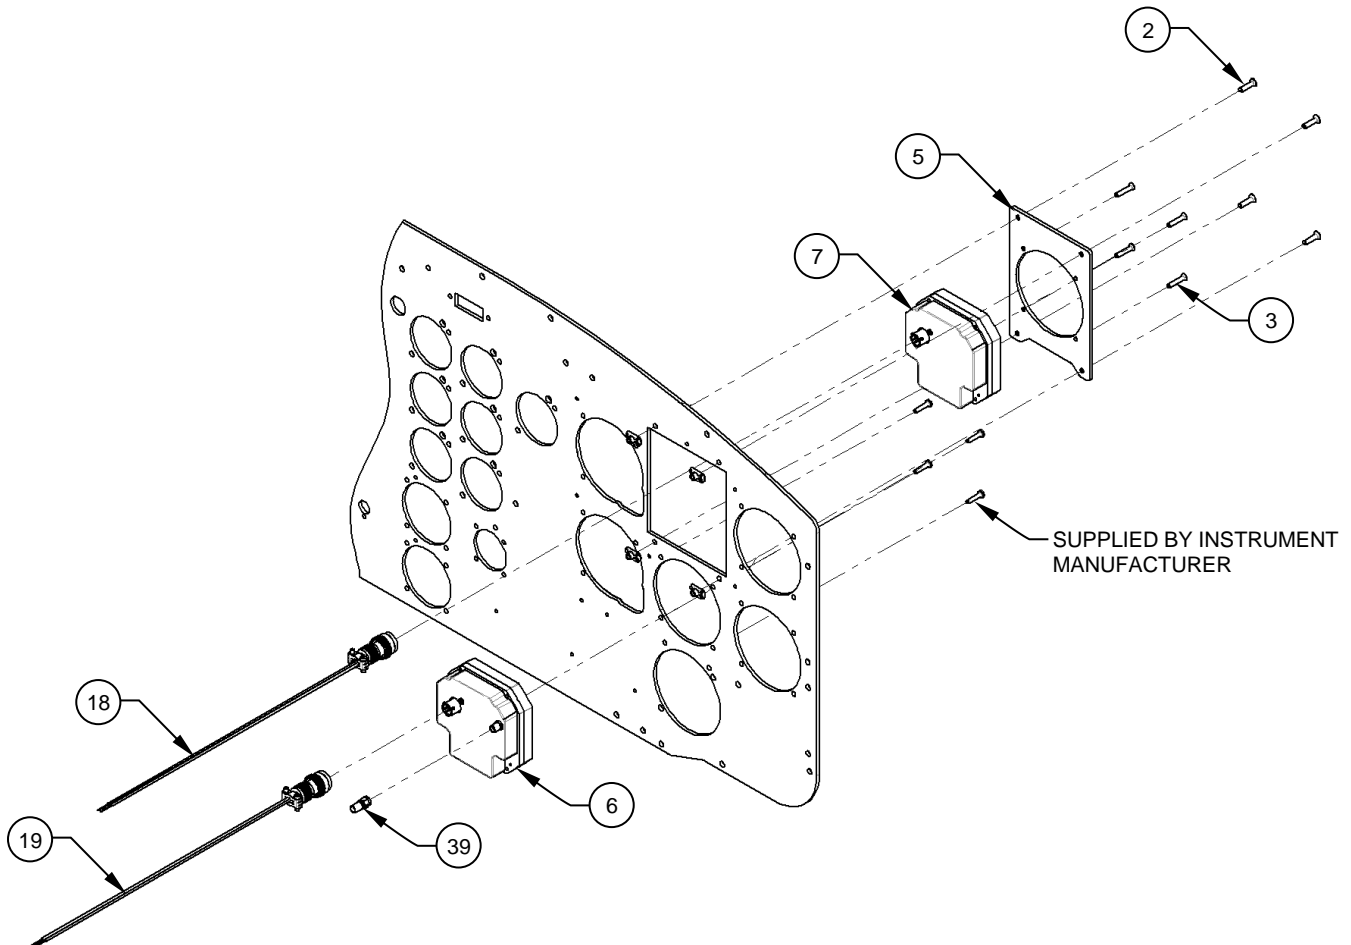

Figure 6
- On the LHS of the cockpit, remove all fasteners common to the Adaptor, Detail (Item 5) and remove the Adaptor, Detail, and the Attitude Indicator (Item 7) as a unit or alternately, remove the Attitude Indicator directly from the instrument panel (as applicable). Remove the Heading Indicator (Item 6) directly from the existing instrument panel. Reference Figure 6.